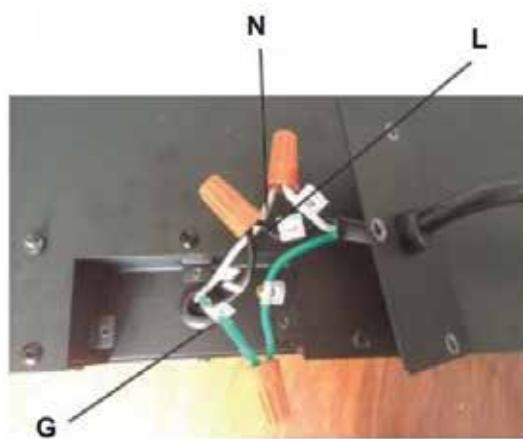

**Fig. 4-2**
- Remove the wire connectors from the power cord (**Fig. 4-2**). Discard power cord.